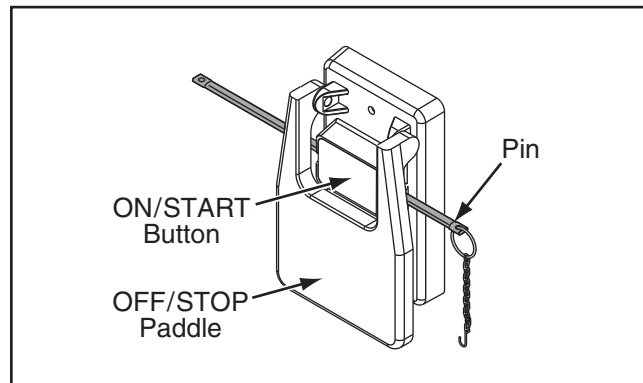

Figure 26. Example of switch disabling pin inserted into START button.
5. Insert the switch disabling pin through the green START button, as shown in **Figure 26**.